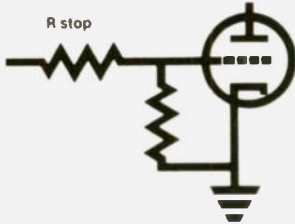

Fig. 15.
3. A grid-stopping or "swamping" resistor can also be employed. A resistor, ranging in value from 1k to 75k Ohms, can be connected in series with the grid as shown in Fig. 15.